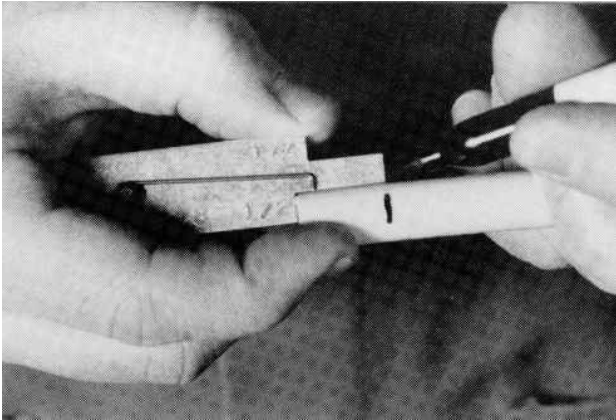

Figure 114 Identify Correct Insertion Depth
2. Use the repair tool (Figure 114) to identify the correct insertion depth for the size tubing being used. Mark the correct insertion depth on the tube. If tubing with insertion depth marks is being used, trim the end of the tubing at an insertion mark using a recommended tube cutter. Refer to step 8(See Service Procedure, page 178) for tube cutting information.